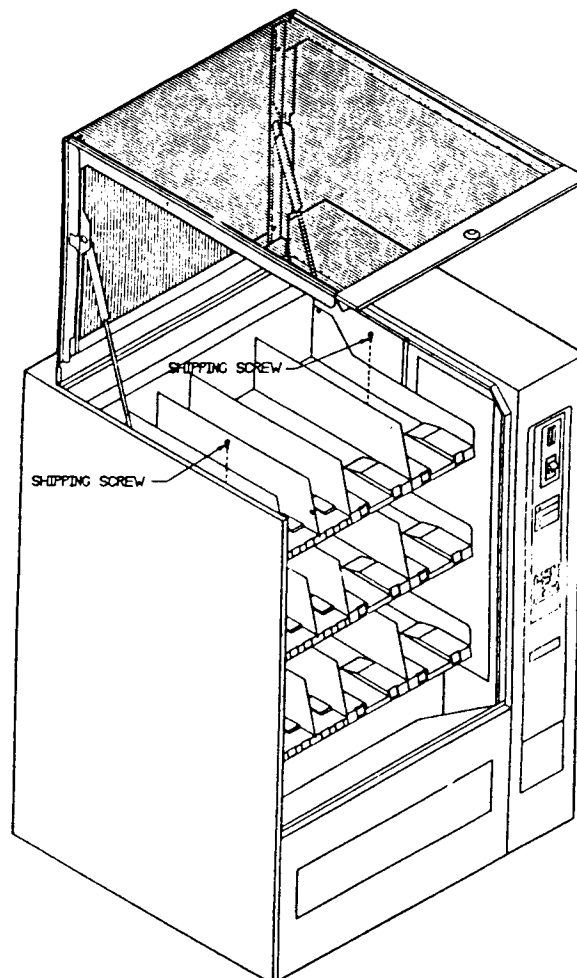

FIGURE 1
04. Remove shipping screws holding the top and center trays of the machine during shipment. (See figure 1).